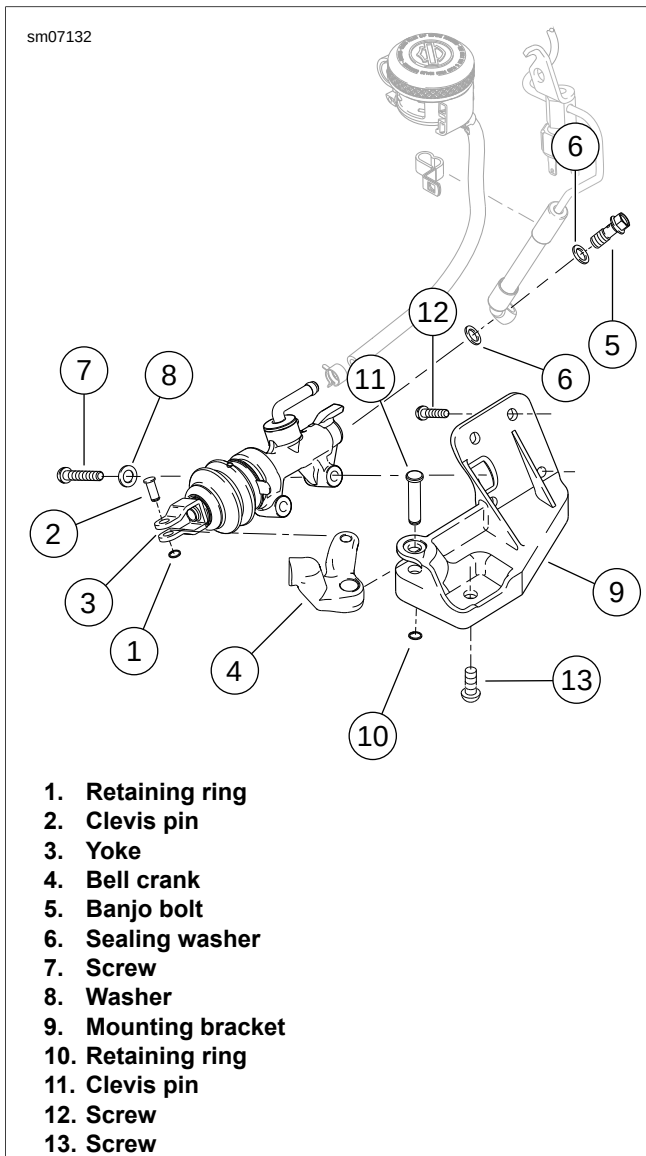

Figure 2-83. Rear Brake Master Cylinder
5. See Figure 2-83. Remove retaining ring (1) from clevis pin (2). Remove clevis pin and disengage master cylinder yoke (3) from bell crank (4). Discard retaining ring.
1. See Figure 2-83. Install mounting bracket (9):
- a. Attach mounting bracket to frame loosely with screws (12, 13) and tighten two screws (12) to 17-22 ft-lbs (23.1-29.9 Nm).
- b. Tighten screw (13) to 17-22 ft-lbs (23.1-29.9 Nm).
2. Install bell crank (4) with clevis pin (11). Secure with **new** retaining ring (10).
3. Install rear master cylinder assembly on mounting bracket with screws (7) and washers (8). Tighten to 17-22 ft-lbs (23.1-29.9 Nm).
4. Fit yoke (3) onto bell crank (4). Install clevis pin (2) and secure with **new** retaining ring (1).